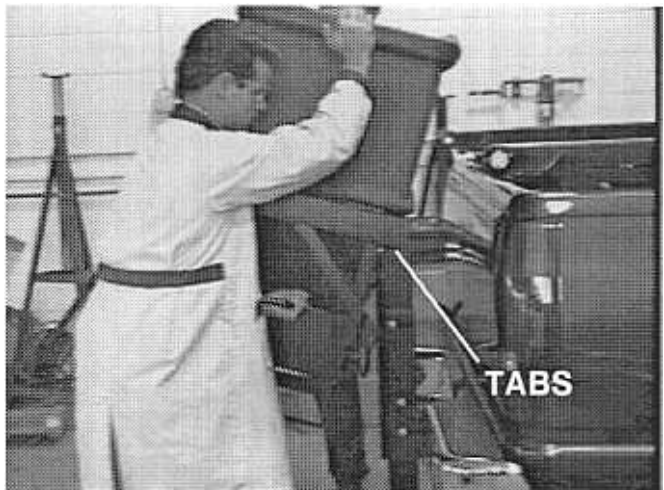

Figure 14
2. Position tabs on the hopper assembly over the top of the installed secondary mount assembly and lower the hopper assembly. See Figure 14.